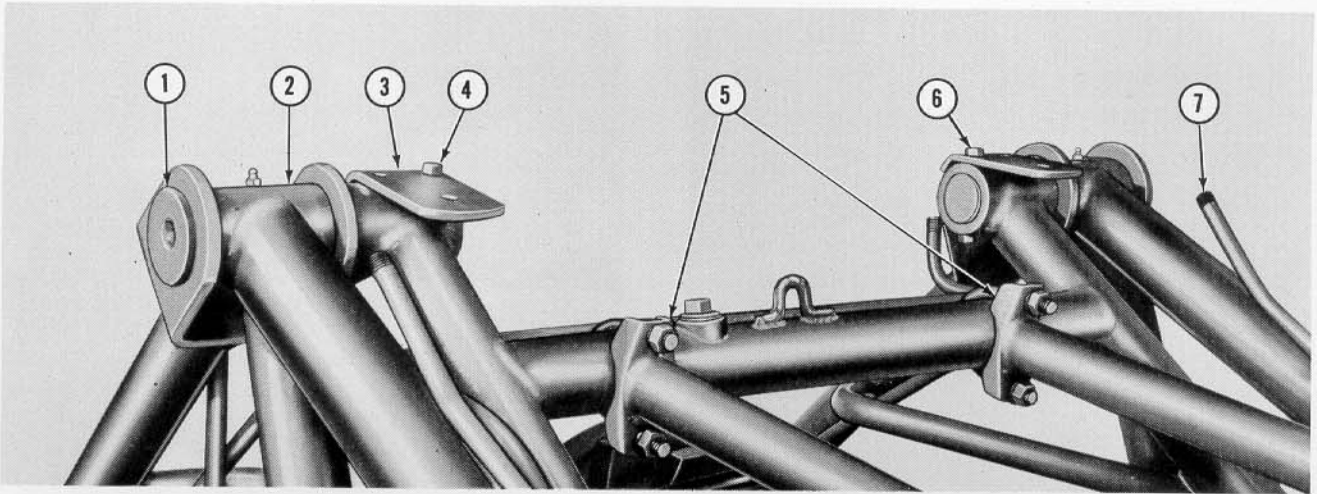
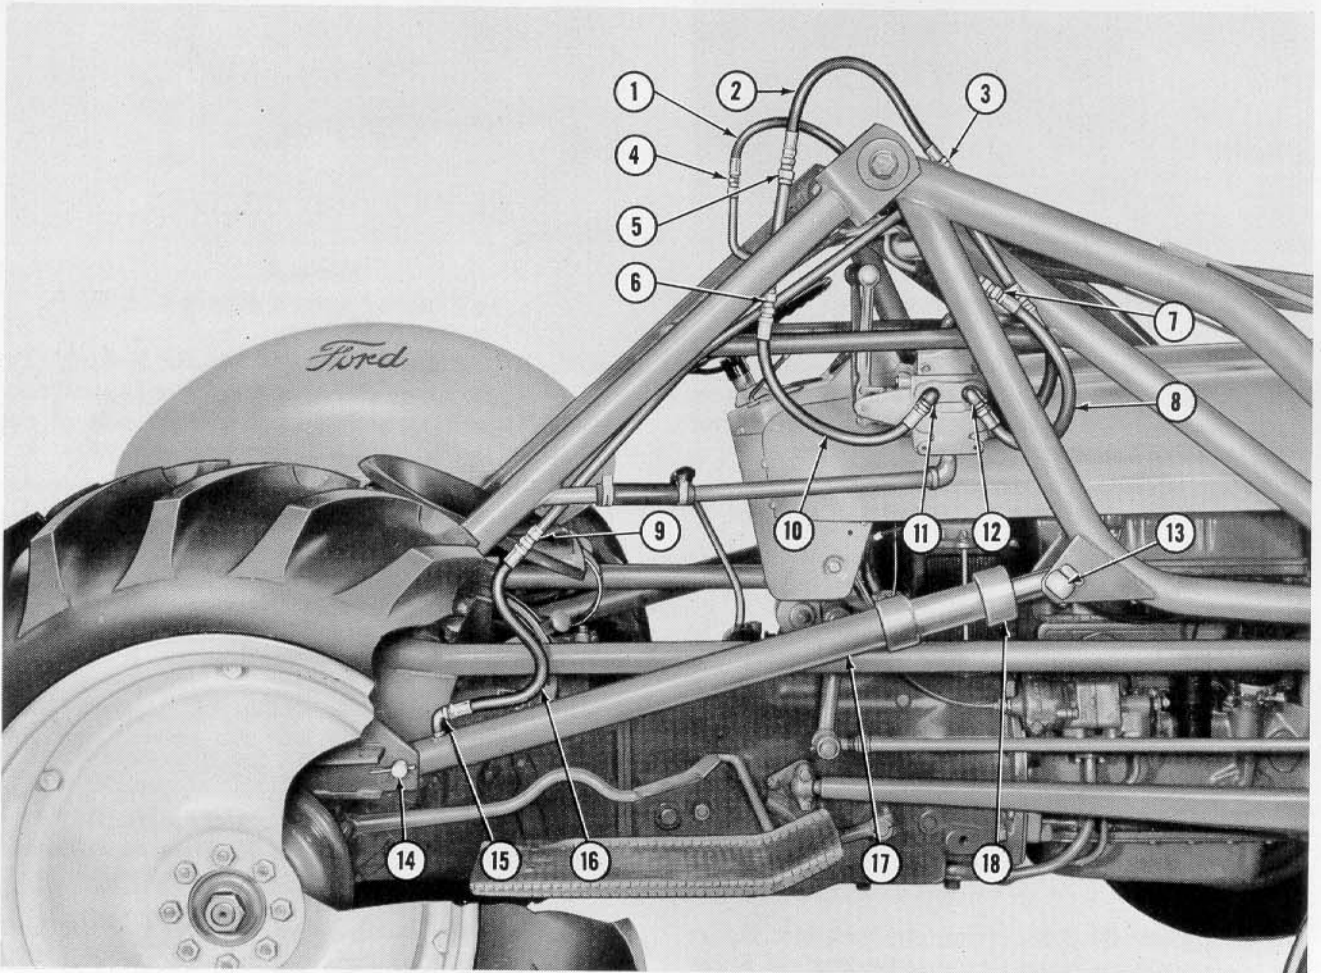

Figure 10
Figure 11
8. Position the loader lift arm assembly on the loader frame so that the pivot pin holes are aligned. Insert a pivot pin (1), Figure 10, in each lift arm pivot yoke (2) as shown. Position a headlight bracket (3) on each side of the frame and secure the brackets and pivot pins with the bolts (4) and (6) as shown.
9. Turn a $\frac{3}{8}$ " street ell (15), Figure 11, into the rear of each hydraulic cylinder (17) and tighten so that the ells point toward the front of the tractor. Turn a hose assembly (16), into the street ell on each cylinder.
10. Attach the rear of a hydraulic cylinder (17), Figure 11, to each side of the frame assembly with a short pivot pin (14). Secure with a cotter pin as shown. Attach the front end of each cylinder to the lift arms with the pivot pins (13) and cotter pins provided.
- NOTE: The cap (18), Figure 11, on each lift arm cylinder should be tightened hand tight.
11. Connect each cylinder hydraulic hose (16), Figure 11, to the equalizer pipe end (9) on each side of the frame assembly.
12. Turn a $\frac{3}{8}$ " pipe coupling on the end of the hose (2), Figure 11, and connect the coupling to the hydraulic line (3). Attach the other end of the hose to the vertical hydraulic line (5). Turn a $\frac{3}{8}$ " pipe coupling on the end of the hose (1), Figure 11, and connect the coupling to the hydraulic line (7), Figure 10. Attach the other end of the hose to the hydraulic line (4), Figure 11.
13. Turn two $\frac{3}{8}$ " street ells (11) and (12), Figure 11, into the outlets on the right side of the hydraulic control valve.
14. Turn the externally threaded end of a hydraulic hose (10), Figure 11, into the street ell (11) and connect the other end to the vertical hydraulic line at (6). Attach the hose (8) to the street ell (12) and connect the other end to the hydraulic line (7), as shown.